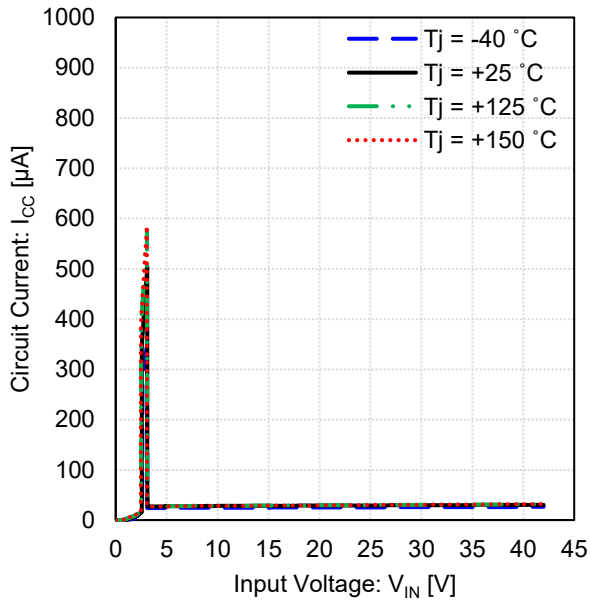

Figure 29. Circuit Current vs Input Voltage
*magnification of Figure 29 at narrow range circuit current